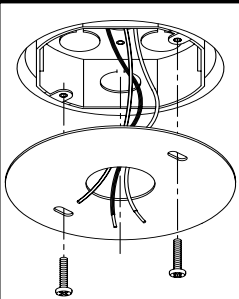

Fig. 3
2. **To install on a drywall ceiling:** (For safety, wiring compartments must be fully covered). Align the slots in the J-Box cover with the holes in the junction box and feed the supply and ground wires through the center hole. Use the 8 x 1" Screws (7) to secure the plate to junction box. **See Fig. 3.**